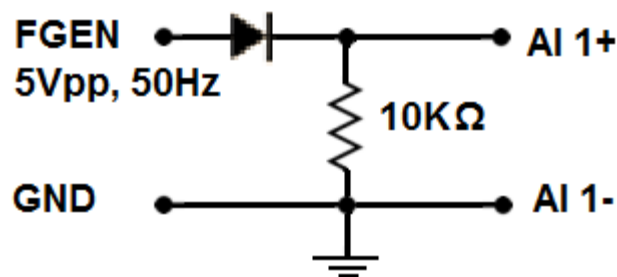

Figure 3.2: Half-wave rectifier circuit (without filter)
1. Connect the circuit as shown in the figure 3.2.